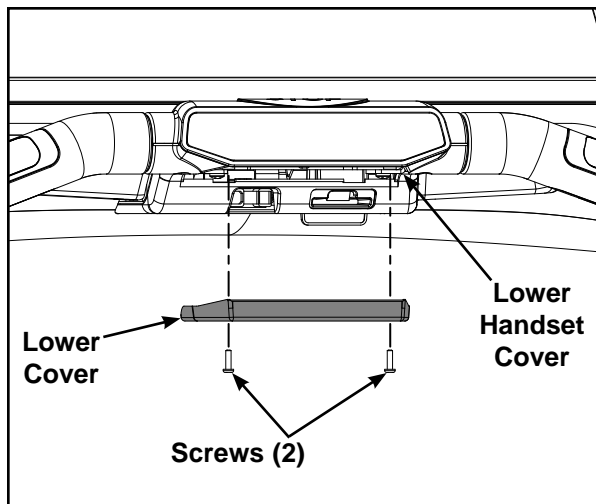
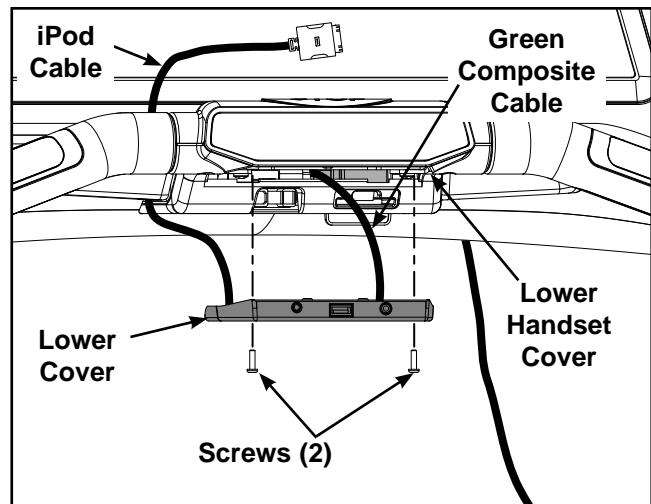

Figure 30a (Non-AV units)
Figure 30b (AV units)
- Using a Phillips screwdriver, remove the two screws securing the lower cover to the lower handset cover. See Figure 30a (Non-AV units) or Figure 30b (AV units).
NOTE: For AV units unplug the iPod and green composite cables from the lower handset cover. See Figure 30b.
- A. Using a Phillips screwdriver, secure the lower cover to the lower handset cover using the two screws removed in step 10A. See Figure 30a (Non-AV units) or Figure 30b (AV units).